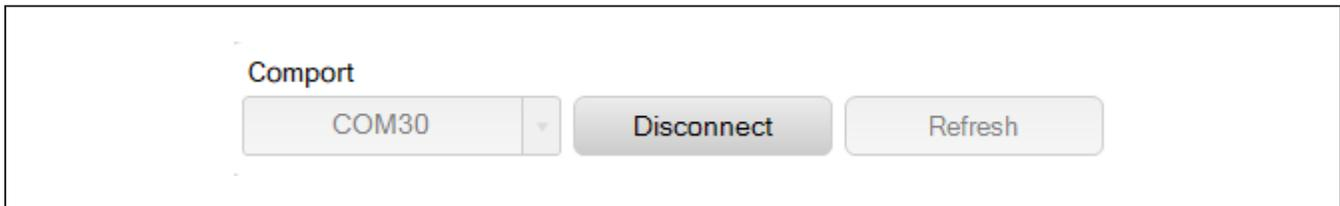

Figure 7. COM Port
- 8) If the EV kit was connected prior to starting the GUI, the expected COM port should be displayed. Select the appropriate COM port from the drop-down list (Figure 7) and click the **Connect** button. The **Connect** button changes to the **Disconnect** button. The COM port can be verified through the Windows device manager. The FTTHR board may display under the COM ports as “Teensy USB Serial” or “Maxim USB-to-UART Adapter” and displays the associated port number.